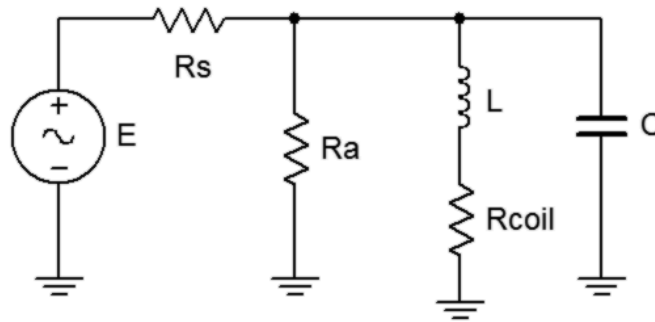

Figure 14.1
1. Using Figure 14.1 with  $R_s=100\text{ k}\Omega$ ,  $R_a=2.2\text{ k}\Omega$ ,  $L=10\text{ mH}$ ,  $R_{\text{coil}}=7\ \Omega$  and  $C=10\text{ nF}$ , determine the theoretical resonance frequency and  $Q$ , and record the results in Table 14.1. Based on these values determine the upper and lower frequencies defining the bandwidth,  $f_1$  and  $f_2$ , and record them in Table 14.1 also.
2. Build the circuit of Figure 14.1 using  $R_s=100\text{ k}\Omega$ ,  $R_a=2.2\text{ k}\Omega$ ,  $L=10\text{ mH}$  and  $C=10\text{ nF}$ . Set the output of the generator to a 10 V p-p sine wave at the theoretical resonant frequency. The large value of  $R_s$  associated with the voltage source will make it appear as a current source equal to approximately 100  $\mu\text{A}$  p-p, assuming the parallel branch impedance is much less than  $R_s$ . Place a probe across the parallel branch. Set the frequency to the theoretical resonance frequency of Table 14.1. Make sure that the *Bandwidth Limit* of the oscilloscope is engaged for both channels. This will reduce the signal noise and make for more accurate readings.